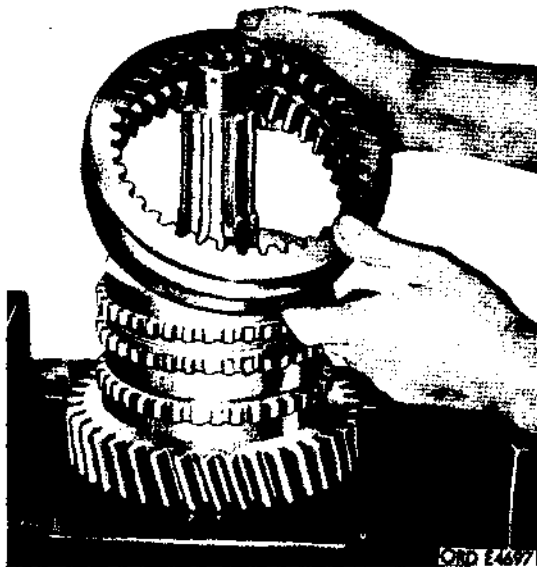

Figure 212. Removing reverse shift collar
- (3) Align gear teeth of both sprag units with similar teeth on the front output shaft driven gear and lift off reverse shift collar (fig. 212).
- (4) Disassemble sprag unit from front output shaft in the following order.